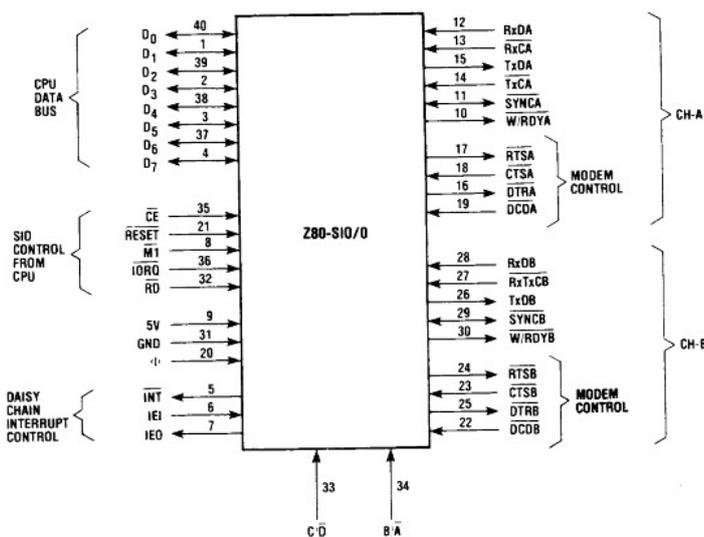

Figure 2. Z80-SIO/0 Pin Configuration
- Z80-SIO/0 has all four signals, but TxCB and RxCB are bonded together (Fig. 2).